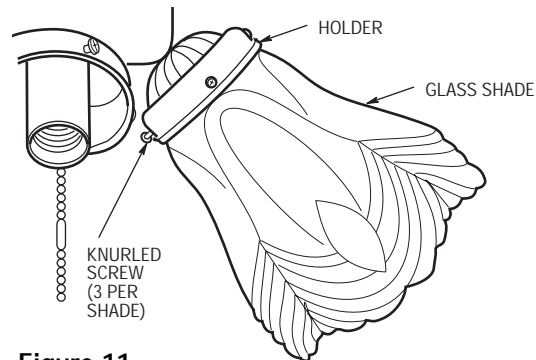

Figure 11
- 7. Back out the three thumb screws in one shade holder until the shade neck slips into the holder. Then tighten the thumb screws until they touch the neck with approximate equal projection on the outside (Figure 11). Repeat for the other three shades. Never use pliers to tighten the thumb screws or a broken or damaged shade may result.